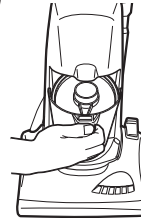

Fig.23
- 2 Pull dirt compartment out to empty. (Fig.23)